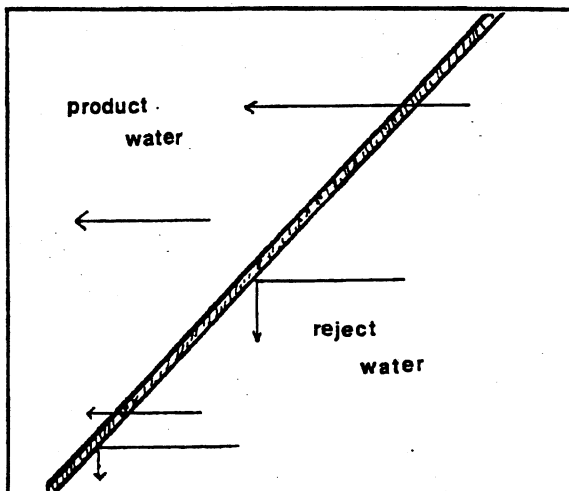

Figure 4-2: Flat plate style configuration.
1. The flat plate style refers to water being pushed against a hard plate. See Figure 4-2;